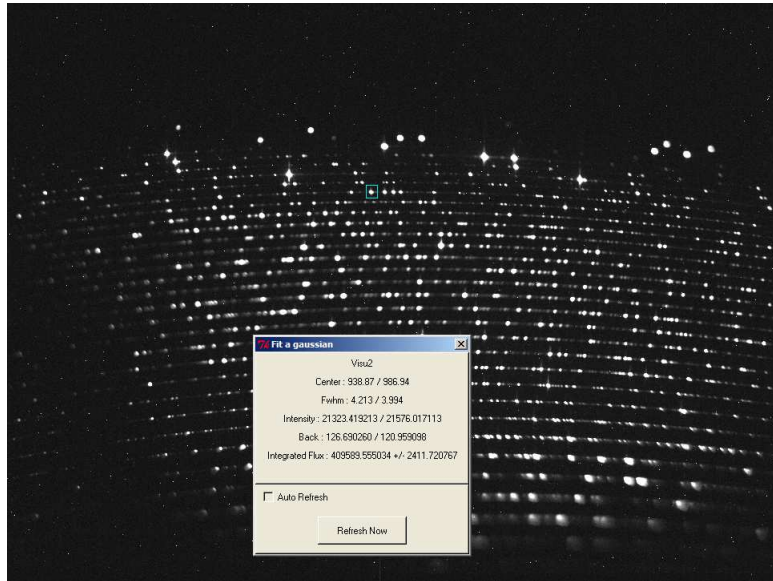

Figure 6.7: Image of the ThAr calibration with the reference line marked and measured with the "Fit a gaussian" analysis function
- Check the eShel camera focus by using the ThAr image and examining the FWHM size of the reference spot (See Figure 6.7 for its location).